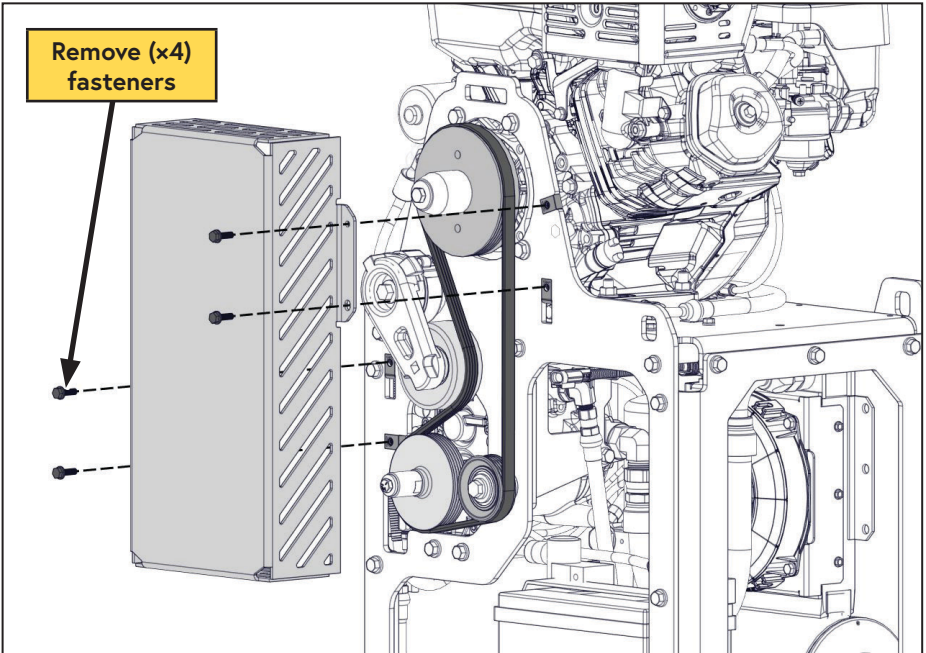

Figure 64 — Inspecting the drive belt
- ☐ Remove the (x4) fasteners from the belt guard and remove the belt guard (Figure 64).